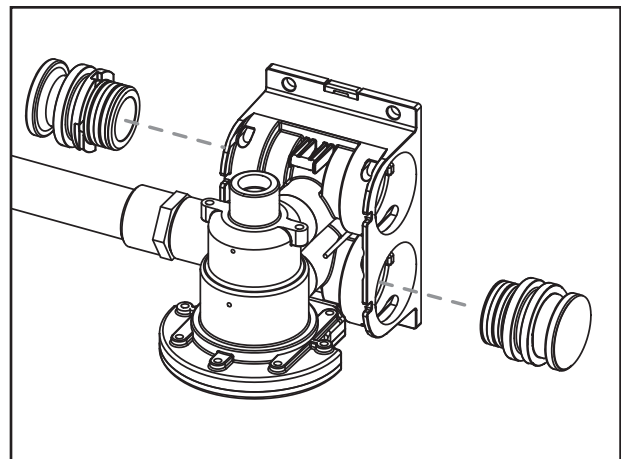

FIGURE 2. INSTALL PLUG FITTINGS
10. Install plug fittings on the top left and bottom right of the manifold assembly, using two yellow U Clips to lock them in place (Figure 2).